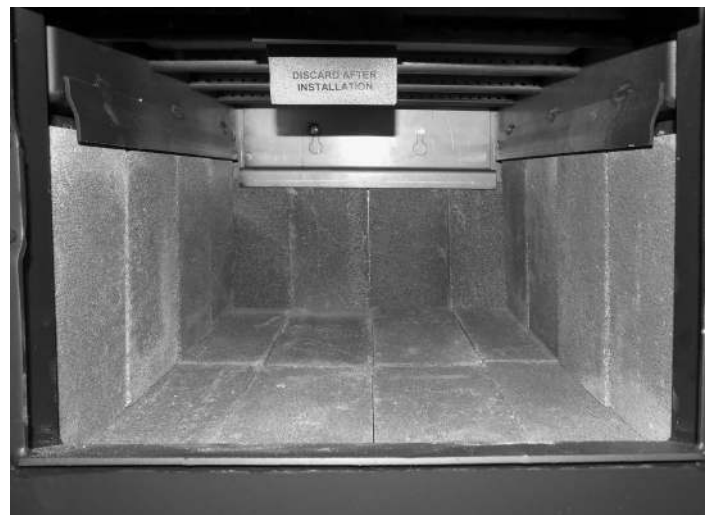

Figure 15: Remaining side wall bricks installation.jpg
5. Using the same method, place three more bricks along one of the side walls. (Figure 15)